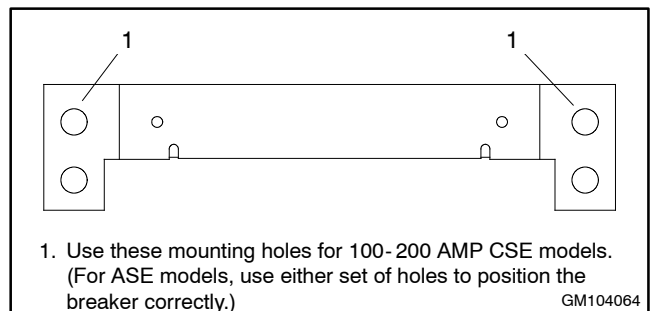
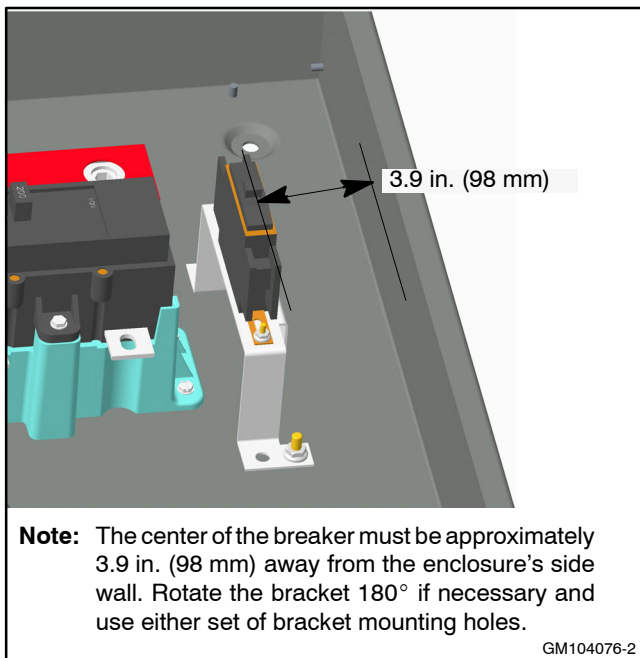

Figure 4 Bracket GM104064 Mounting Holes for 100-200 Amp CSE Models
Figure 5 Breaker Distance from Enclosure Wall, 100-200 Amp ASE Models
- 100-200 Amp **ASE** models: Measure the distance from the side wall, and position the bracket so that the circuit breaker is located approximately 3.9 in. (98 mm) from the side wall. Rotate the bracket 180° if necessary, and use either set of mounting bracket holes to position the breaker correctly. See Figure 4 and Figure 5.
- 100-200 Amp **CSE** models: Use the mounting holes that line up with the circuit breaker to secure the mounting bracket. See Figure 4.